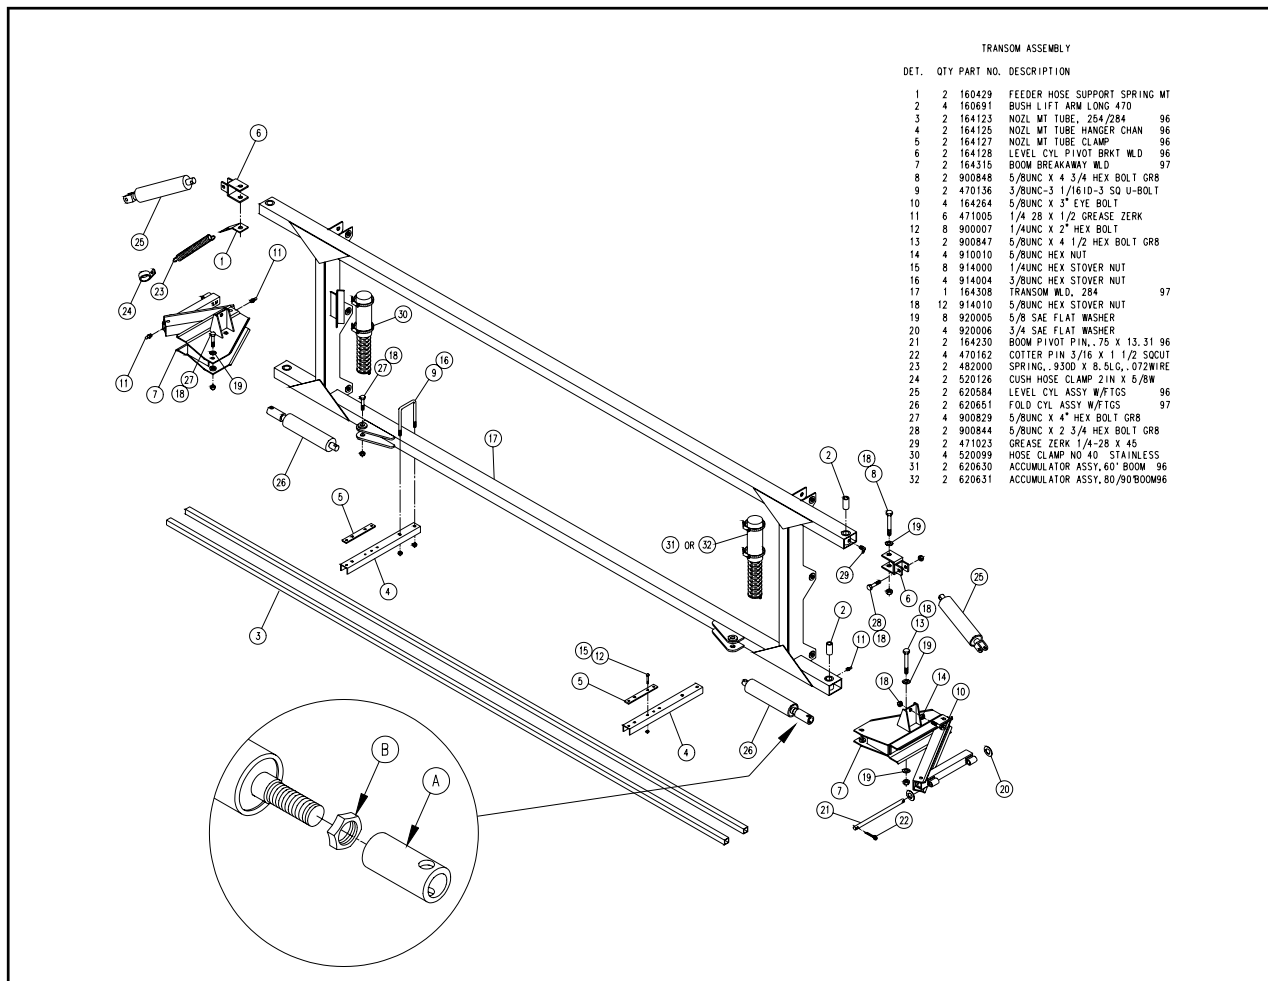

FIG 4.7
- Install the transom weldment (fig. 4.7, item 17).
- After the outer booms have been installed, adjust the fold cylinder sleeve (page 25, fig 4.7, item A) until the booms are parallel with the transom. Then use this same adjustment to allow the boom to fold in far enough to locate in the boom cradle. Lock the cylinder sleeve in place with the jam nut (page 25, fig 4.7, item B).